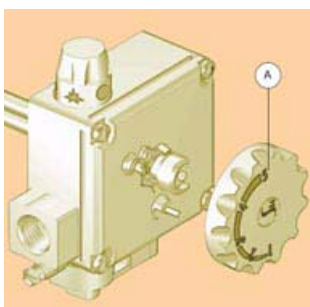
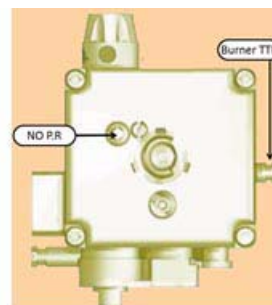

Figure 5 - Adjustment for LPG
Figure 6 - Adjusting the "NO P.R." Screw
1. Bypass the SIT Gas Control Integrated Pressure Regulator by removing knob A (refer to Figure 5) and adjusting the "NO P.R." screw clockwise, the screw will click once the integrated pressure regulator is bypassed (see Figure 6).
2. Connect a manometer to the Burner TPP position on the SIT Gas Control (see Figure 6).